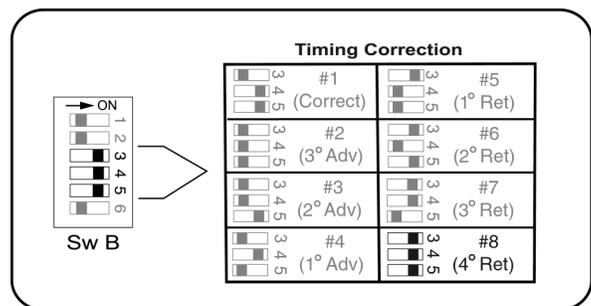

Figure 1x
1. Set the timing correction switches to the most retarded timing calibration. Set switches Sw B 3,4,5 as shown in Figure 1x.